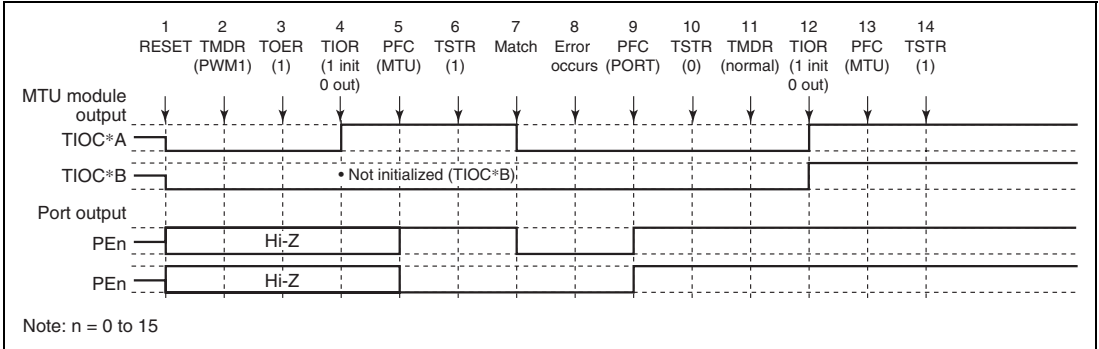

Figure 8.90 Error Occurrence in PWM Mode 1, Recovery in Normal Mode
(7) Operation when Error Occurs during PWM Mode 1 Operation, and Operation is Restarted in Normal Mode: Figure 8.90 shows an explanatory diagram of the case where an error occurs in PWM mode 1 and operation is restarted in normal mode after re-setting.
1 to 10 are the same as in figure 8.90.
1 to 14 are the same as in figure 8.90.